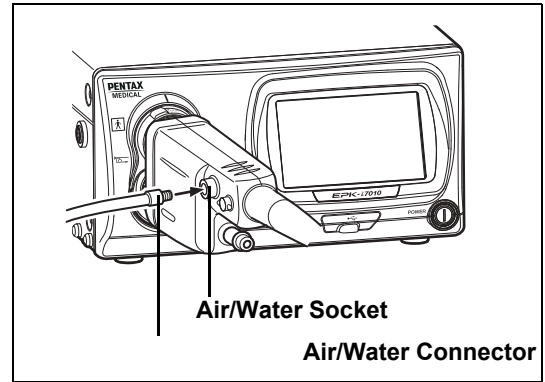

Figure 3.4
- 6 Connect the air/water connector to the air/water socket on the PVE connector of the endoscope. (Refer to Figure 3.4.)